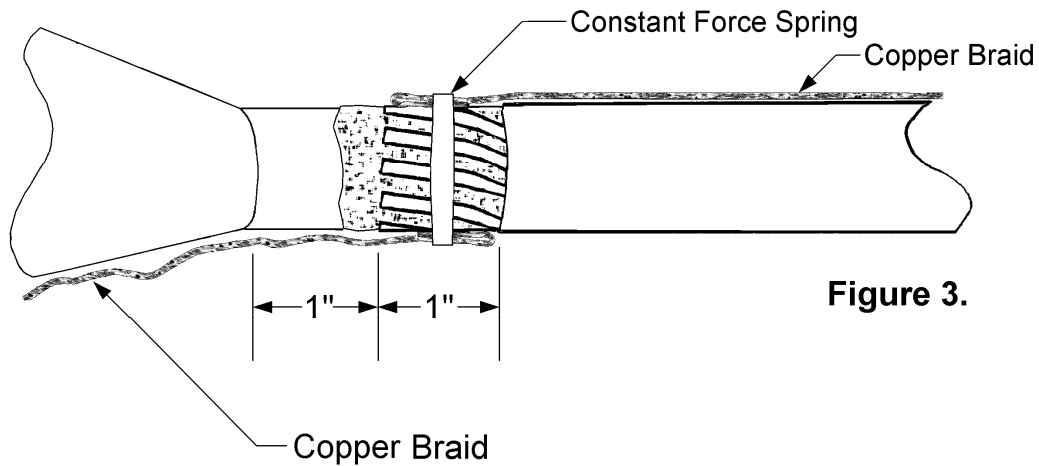

Figure 3.
6. Lay copper braid (Stock No. 618624) over the flat strap shielding and the braid. Apply a constant force spring (Stock No. 686514) while folding the copper braid over alternating layers of the constant force spring and bring across the splice (Fig. 3). Use another constant force spring on the other side of the splice for the same application, connecting the same copper braid to the second spring. On the station side of the splice, bring out a pigtail of solder blocked copper braid for connecting to ground. **This application is for the Delta Network System only.**